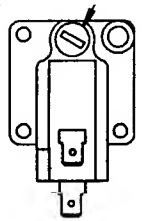

FIGURE 8
4. There is an adjustment screw on the disconnect switch above the terminal connections (see fig. 8). This screw adjusts both the cut-in and cut-out pressures. The cut-in pressure setting turns the compressor system on when the pressure attached to the "WALL" fitting falls below that setting. The cut-out pressure turns the compressor system off when the pressure attached to the "WALL" fitting rises above that setting. The difference between these two readings is the differential pressure.